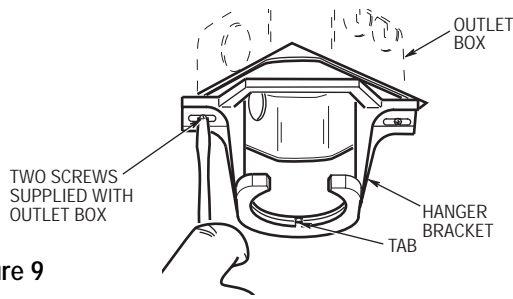
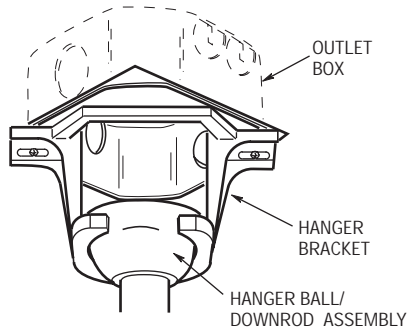

Figure 9
Figure 10
- 14. Securely attach the hanger bracket to the outlet box using the two screws supplied with the outlet box (Figure 9).
- 15. Carefully lift the fan and seat the hanger ball/downrod assembly on the hanger bracket that was just attached to the outlet box (Figure 10). Be sure the groove in the ball is lined up with tab on the hanger bracket (Figure 9).